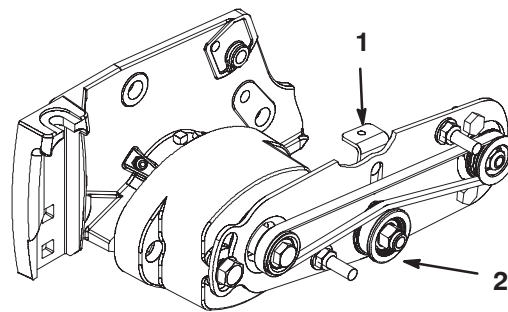

Figure 13
19. Install the belt onto the pulleys (Fig. 13). Make sure the ribs on the belt are properly seated in the grooves in each pulley.
20. With the idler pulley nut loose, use a spring gauge to pull up on the idler plate tab with 15 lbs. of force on a new belt (10 lbs. of force on a used belt) (Fig. 13). Tighten the nut securing the idler pulley.